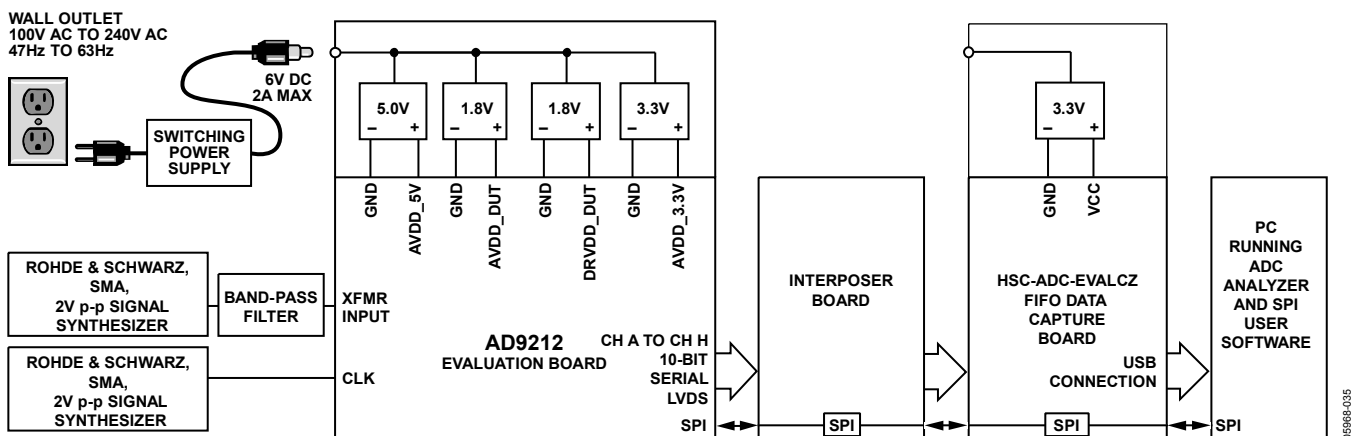
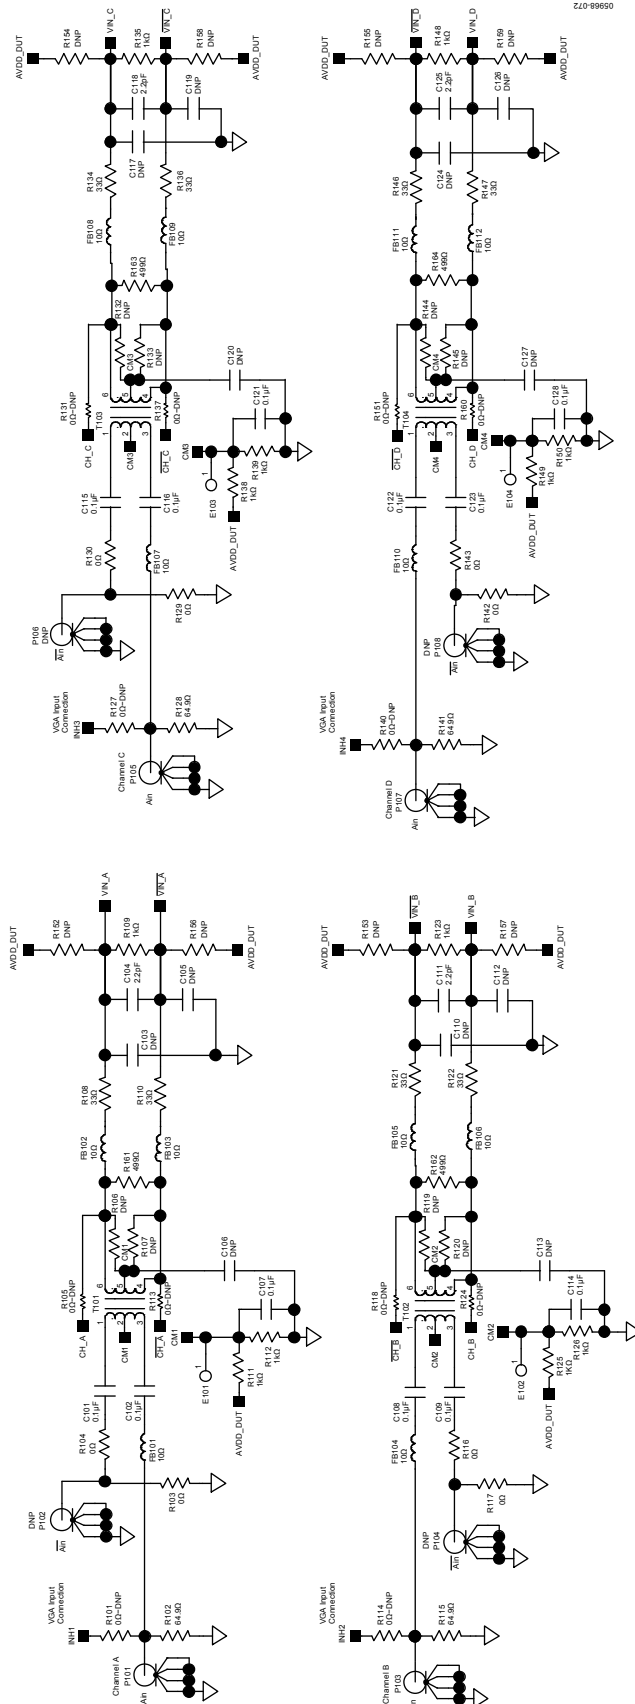
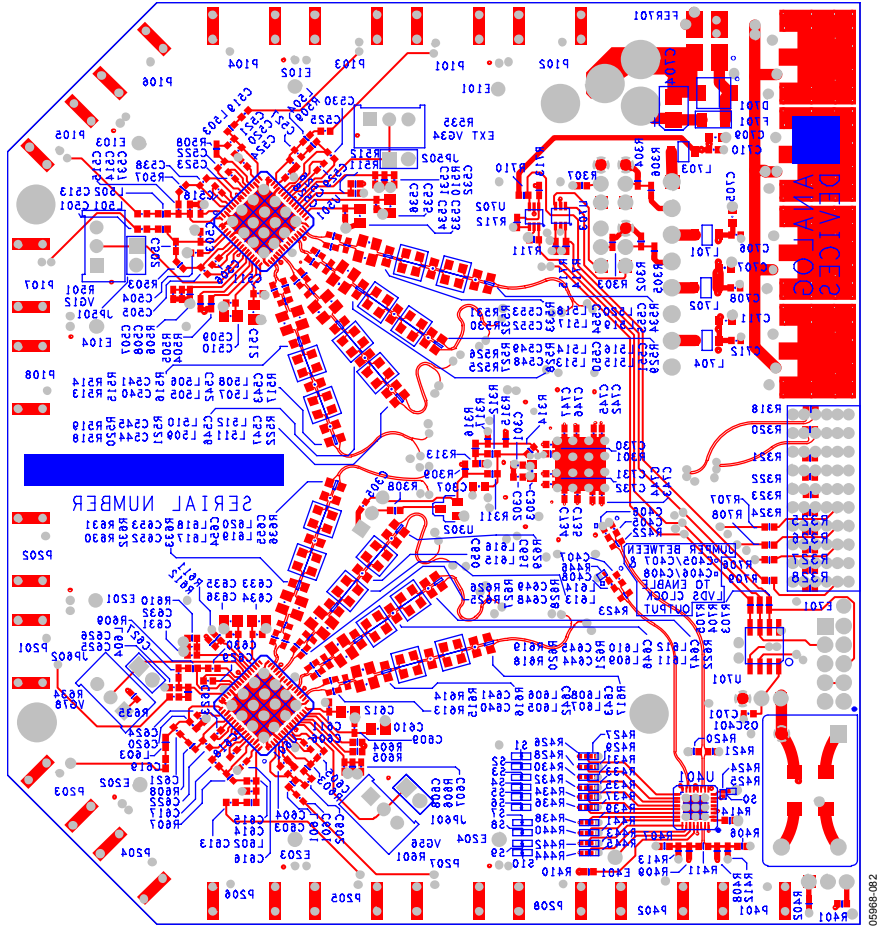

Figure 70. Evaluation Board Connection
Figure 74. Evaluation Board Schematic, DUT Analog Inputs
Figure 84. Evaluation Board Layout, Secondary Side (Mirrored Image)
The AD9212 evaluation board provides all the support circuitry required to operate the ADC in its various modes and configurations. The converter can be driven differentially by using a transformer (default) or an AD8334 driver. The ADC can also be driven in a single-ended fashion. Separate power pins are provided to isolate the DUT from the drive circuitry of the AD8334. Each input configuration can be selected by changing the connections of various jumpers (see Figure 74 to Figure 78). Figure 70 shows the typical bench characterization setup used to evaluate the ac performance of the AD9212. It is critical that the signal sources used for the analog input and clock have very low phase noise (<1 ps rms jitter) to realize the optimum performance of the converter. Proper filtering of the analog input signal to remove harmonics and lower the integrated or broadband noise at the input is also necessary to achieve the specified noise performance.
See Figure 74 to Figure 84 for the complete schematics and layout diagrams demonstrating the routing and grounding techniques that should be applied at the system level.
- **D + x, D - x:** If an alternative data capture method to the setup shown in Figure 74 is used, optional receiver terminations, R318 and R320 to R328, can be installed next to the high speed backplane connector.